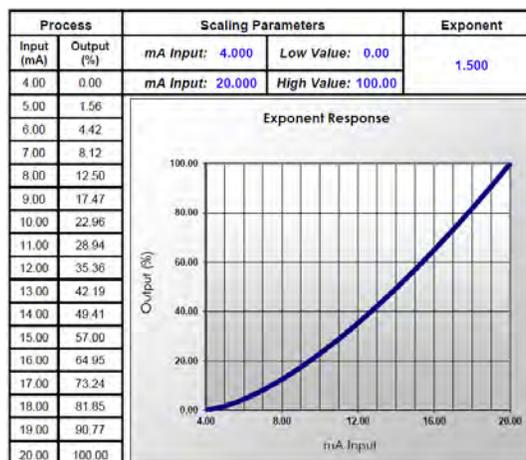

Fig 27: Exponent Response Graph
- The graph in figure 27 shows the display response based on example parameters and exponent of 1 1/2". For this mode select [Scale Exponent] from Function options.